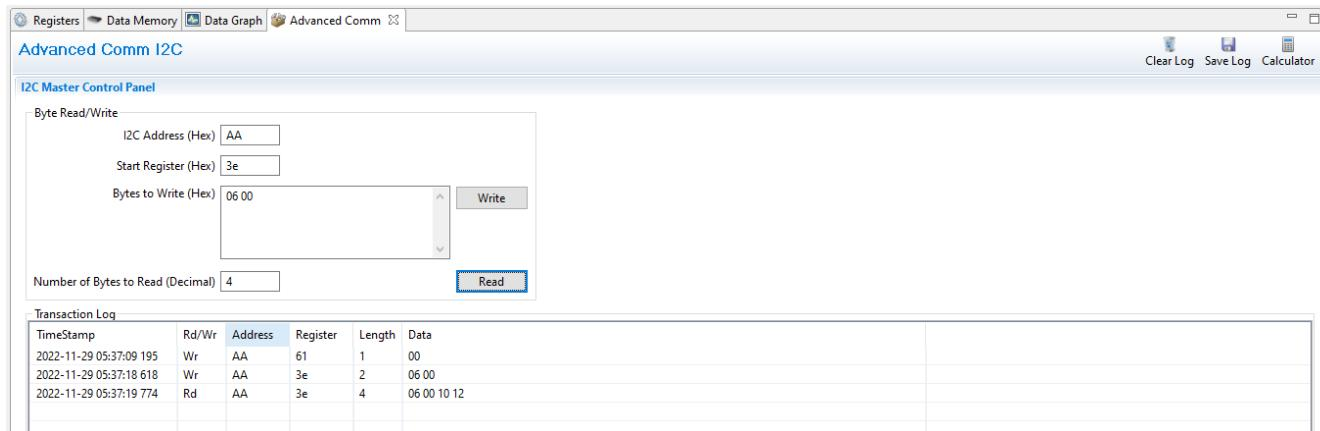

Figure 1-11. Advanced Comm I²C Screen
Press the **Advanced Comm I²C** button to select the **Advanced Comm I²C** window. This tool provides access to parameters using I²C and Manufacturing Access commands. See Figure 1-11. The transaction log screen shows the history of sent commands.
- Write to mac address 0x3e Command 0x06 0x00 (see Figure 1-11).
- Write to mac address 0x3e command 0x21 0x00 (see Figure 1-11).